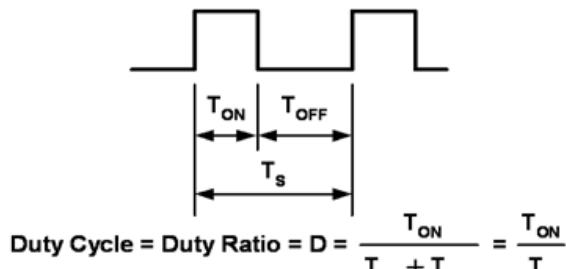

Figure 13.
the human eye will detect a flicker from the light emitted from the LEDs. Between 500 Hz and 20 kHz the circuit may generate audible sound. Dimming is achieved by turning the LEDs on and off for a portion of a single cycle. This on/off cycle is called the Duty cycle (D) and is expressed by the amount of time the LEDs are on (Ton) divided by the total time of an on/off cycle (Ts) (Figure 13).